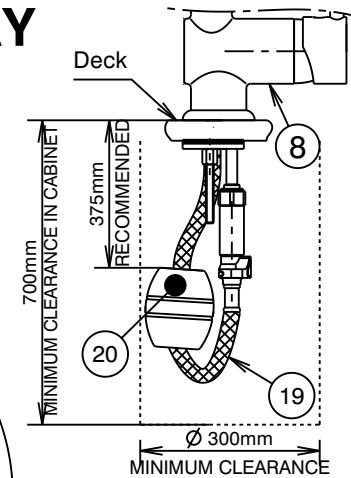

Fig.2
- 1) Check that spray head (26) together with washer (25) is assembled into conical nut (24) of hose (19). Pass the hose from the spigot end (15) through the outlet tube and mixer body. Ensure 'O'ring (9) and studs (22) are fitted into base of mixer body (8) as shown.
- 2) **Flexible Tail Mixer Connections:** Ensure flexible tail (17) (with red indication) is fitted into the hole marked as 'H' at the bottom of mixer body (8). Ensure another flexible tail (with blue indication) is fitted into remaining hole in a similar manner. Check both flexible tails have been fully tightened to provide a watertight joint.
- 3) Insert the spigot end (15) of hose (19) through the hole in the deck, followed by inlet connection end (16) of each flexible tail (17) then the outlet tube (13). Feed spacer (27) (for thin decks only) over hoses then assemble gasket washer (11) together with fixing plate (12) onto the threaded studs (22). Screw on fixing nuts (21), position the mixer (8) as required, then tighten fixing nuts (21) using a suitable spanner.
- 4) Screw the hex end of check valve housing (14) on spigot end (15) of hose (19) and tighten gently with a spanner, **DO NOT OVERTIGHTEN.** Fit the spigot end (15) of hose (19) into the check valve housing (14) and push it in all the way until a "click" sound is heard. With hose (19) unobstructed & hanging freely in its retracted position in the cabinet (Fig.2), fit hose weight (20) onto hose (19) and position it so that the hose (19) can extend sufficiently when spray head (26) is pulled from the swivel tube (23) (Fig.2). Tighten hose weight screws using a suitable screwdriver.
- 5) **Flexible Tail Inlet Connections:** Connect the flexible tails (17) to the hot and cold isolating stop taps. Hand tighten the connecting nut (16) until rubber washer contacts the sealing face of the connection end, then tighten firmly using a suitable spanner to provide a watertight joint. **Important:** Flexible tails must not be kinked, twisted or in tension when installed. (Minimum Bend Radius:- 50mm)
- Minimum clearance requirement (Fig 2), underneath the deck to allow the Pull-out hose and weight to move freely.